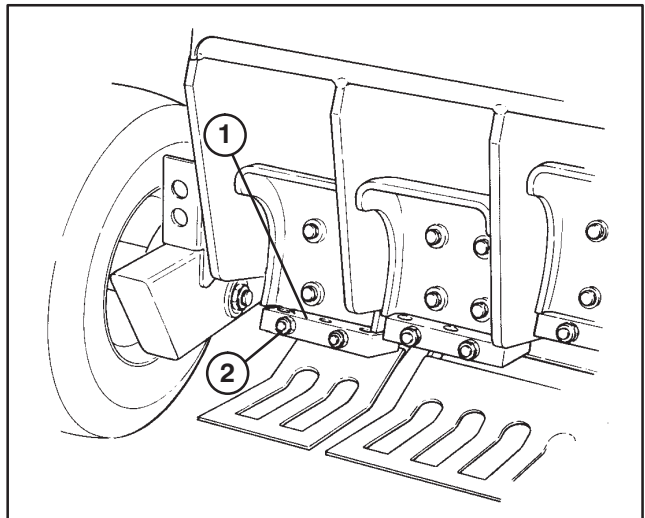

Figure 12
4. Loosen (2) hex nuts on each tine block until tines can be inserted. Insert tines, from bottom, until they bottom out on flange in top of tine block (Fig. 12).
5. Tighten mounting nuts to 100–110 ft/lb. torque (Fig. 12).